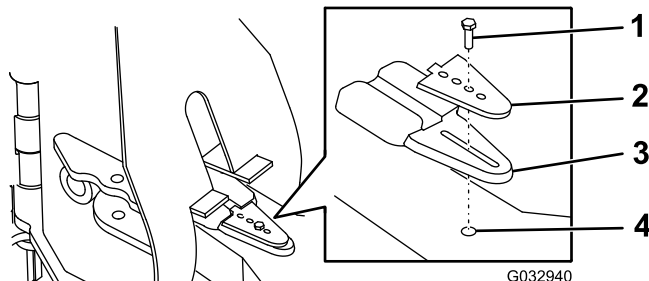

Figure 46
2. Adjust the bumper-stop plate (Figure 46).
3. Secure the plate to the bumper stop and push frame using the previously removed bolt (Figure 46). Torque the bolt to 31 N·m (23 ft·lb).